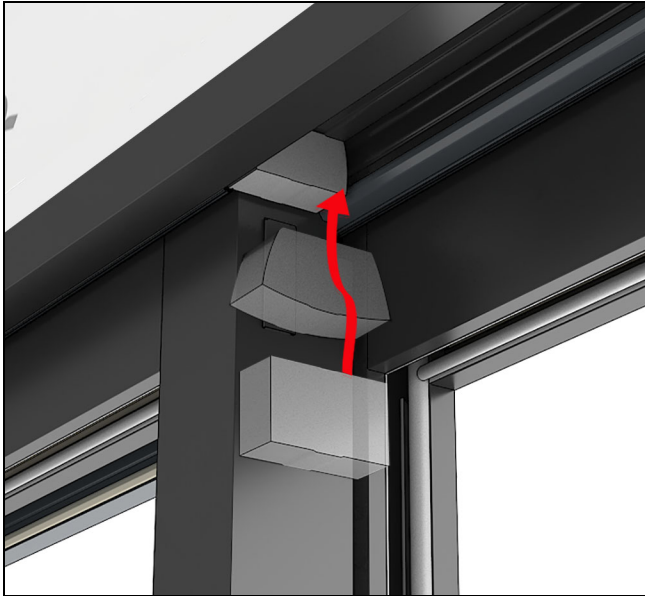

Figure 109 Exterior
1. With all the panels closed, squeeze and insert a head jamb gasket adhesive side up into the head jamb track. Position the gasket flush with the panel(s). See Figure 109.